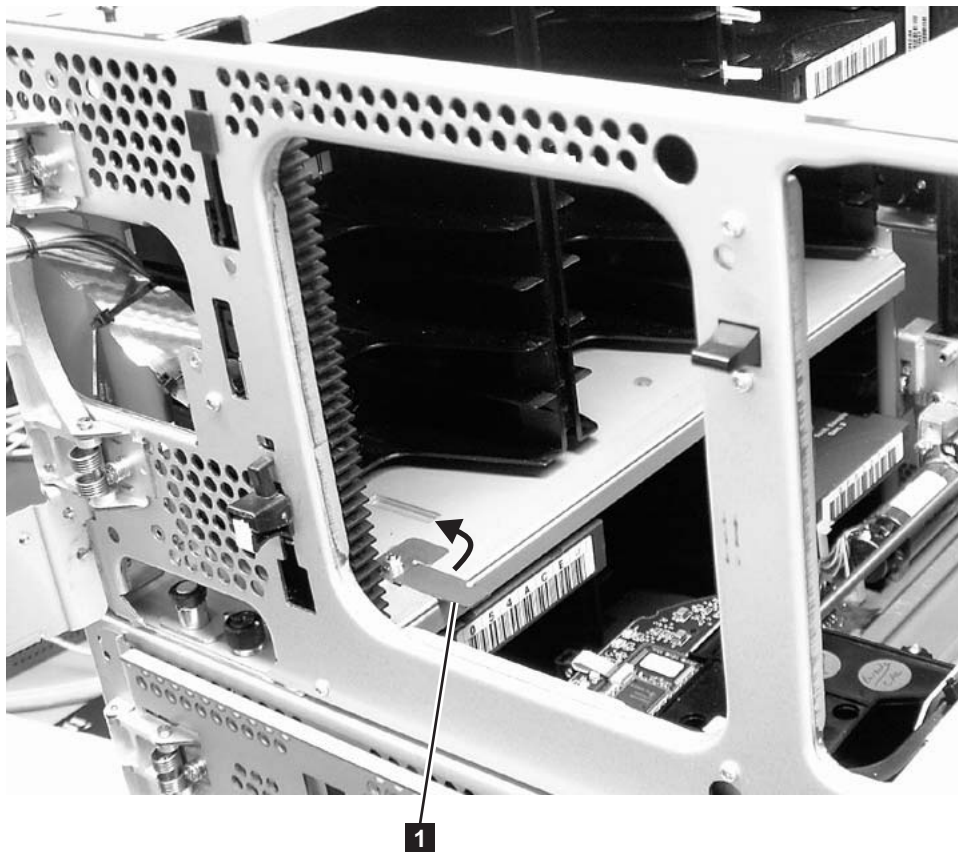

Figure 3-25. Releasing the picker assembly lock mechanism
3. Manually raise the picker assembly while you release the lock mechanism (**1** in Figure 3-25).